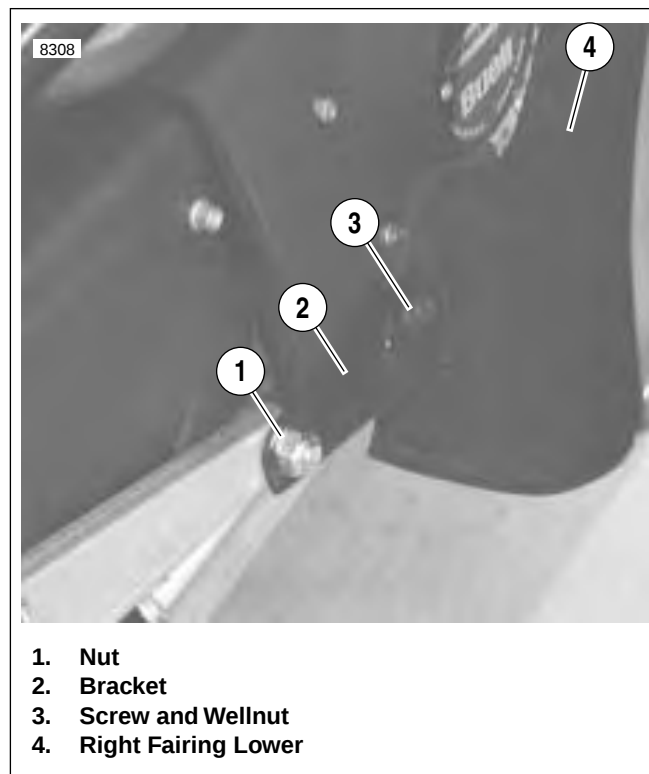

Figure 2-96. Fairing Lower Mount
1. See Figure 2-96. Remove screw on fairing lower. Remove bracket from stud.
4. See Figure 2-96. Place fairing lower bracket on stud. Fasten fairing lower to bracket using screw.